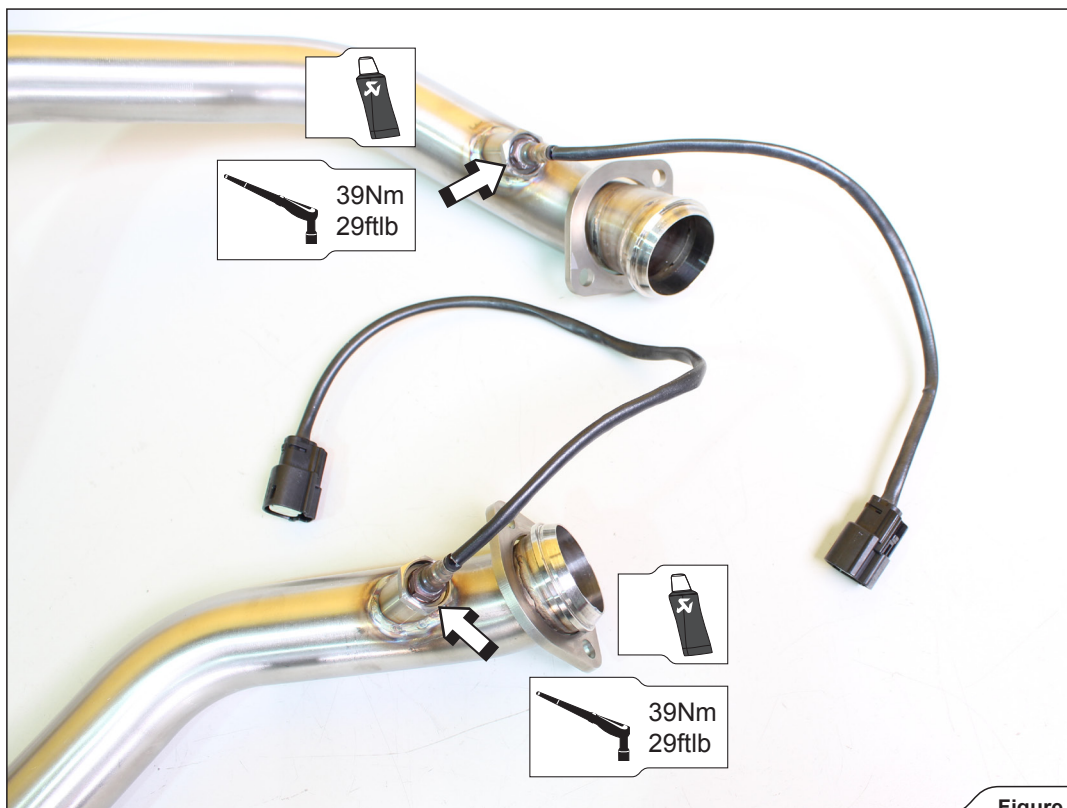

Figure 9
3. Tighten the original lambda sensors into the header pipes (Figure 9).